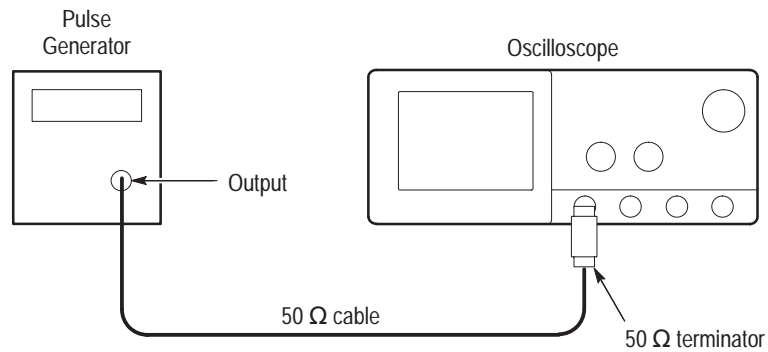

Figure 4–37: Setup for sync duty cycle test
- Connect the pulse generator through a 50 Ω cable and a 50 Ω terminator to the oscilloscope CH1 input. See Figure 4–37.
- Turn the pulse generator **OUTPUT (VOLTS)** control until the signal on the oscilloscope shows a one division negative-going pulse. See Figure 4–38.